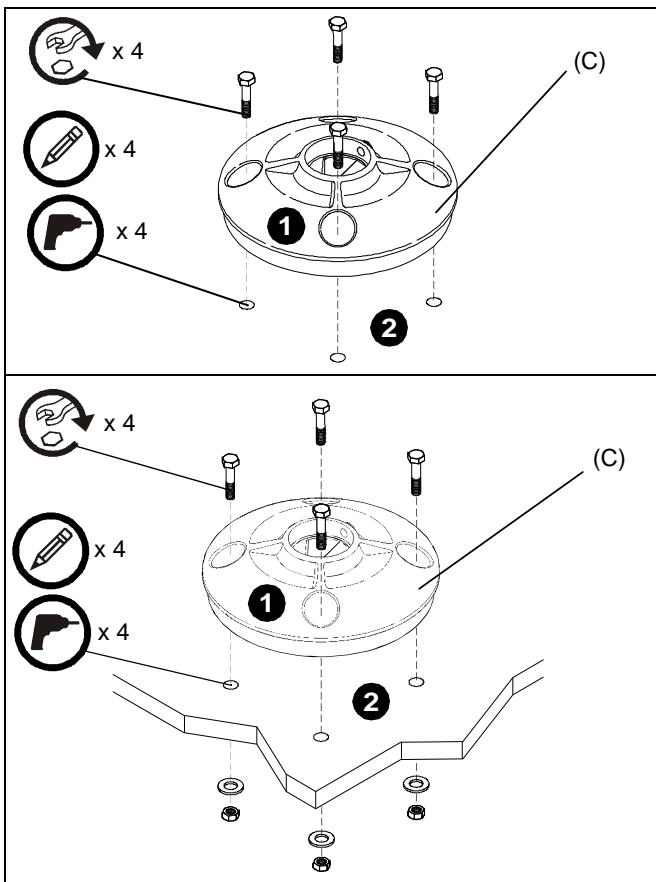

Figure 1
2. Orient base (C) so that cable management opening is properly positioned. (See Figure 1)
3. Using a pencil, or similar marking tool, mark the location of mounting holes in base onto surface. (See Figure 1)